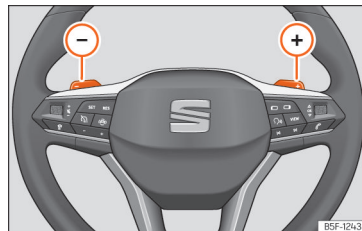

Fig. 154 Steering wheel: automatic transmission levers
- Press the gearshift paddle  to select a higher gear **»» Fig. 154**.